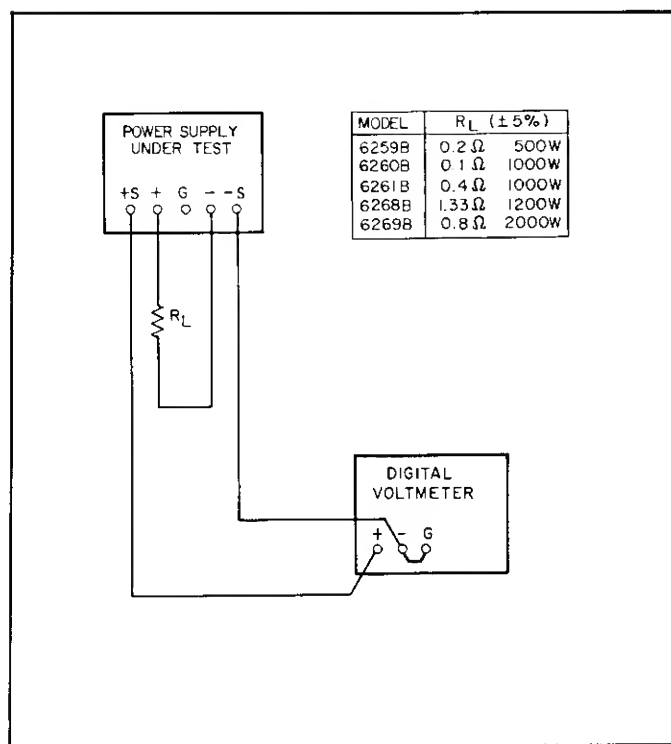

Figure 5-1. Constant-Voltage Load Regulation Test Setup
- Connect load resistor (R_L) indicated in Figure 5-1 across output terminals of supply.
- Connect test setup shown in Figure 5-1.
- Connect load resistance and digital voltmeter as illustrated in Figure 5-1.